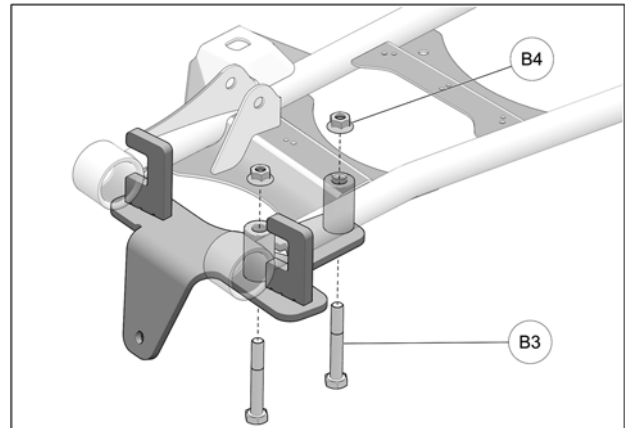

Fig. 5
5. Insert M10x70 mm bolts (B3) through anchor bracket and spacer bushings, and also through hole in suspension arm reinforcing plate to secure the back of the bracket. Use the flange nuts (B4) provided to assemble the parts together. Torque to 50 N•m [37 lb•ft]. See Fig. 5